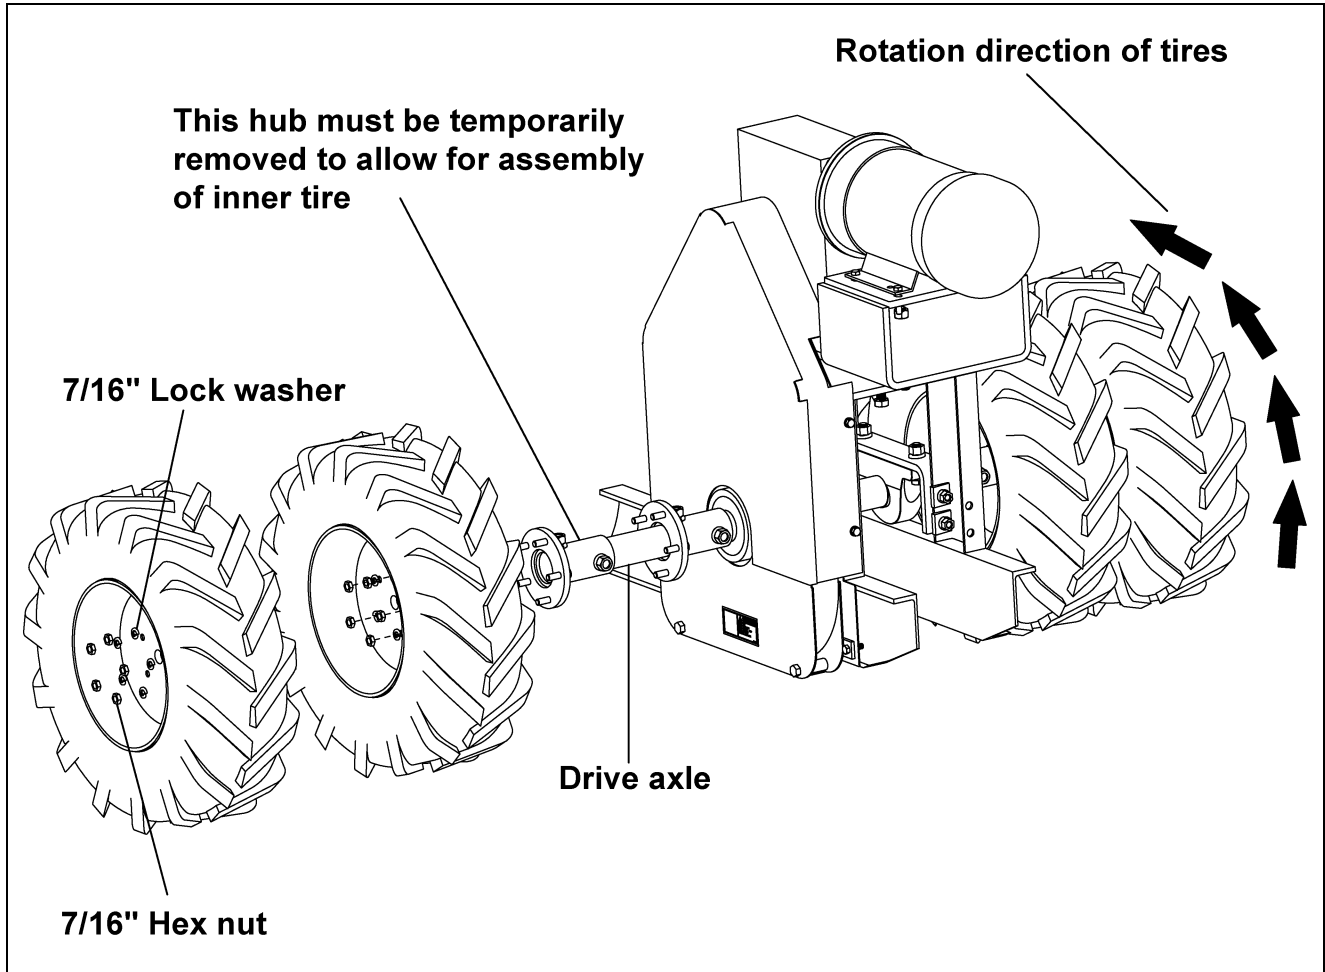

Figure 5Q
A. Assemble the tires to the drive axle assembly using twenty (20) 7/16" lock washers and hex nuts. (See Figure 5Q.)
NOTE: Tires go on backwards as shown in Figure 5Q.